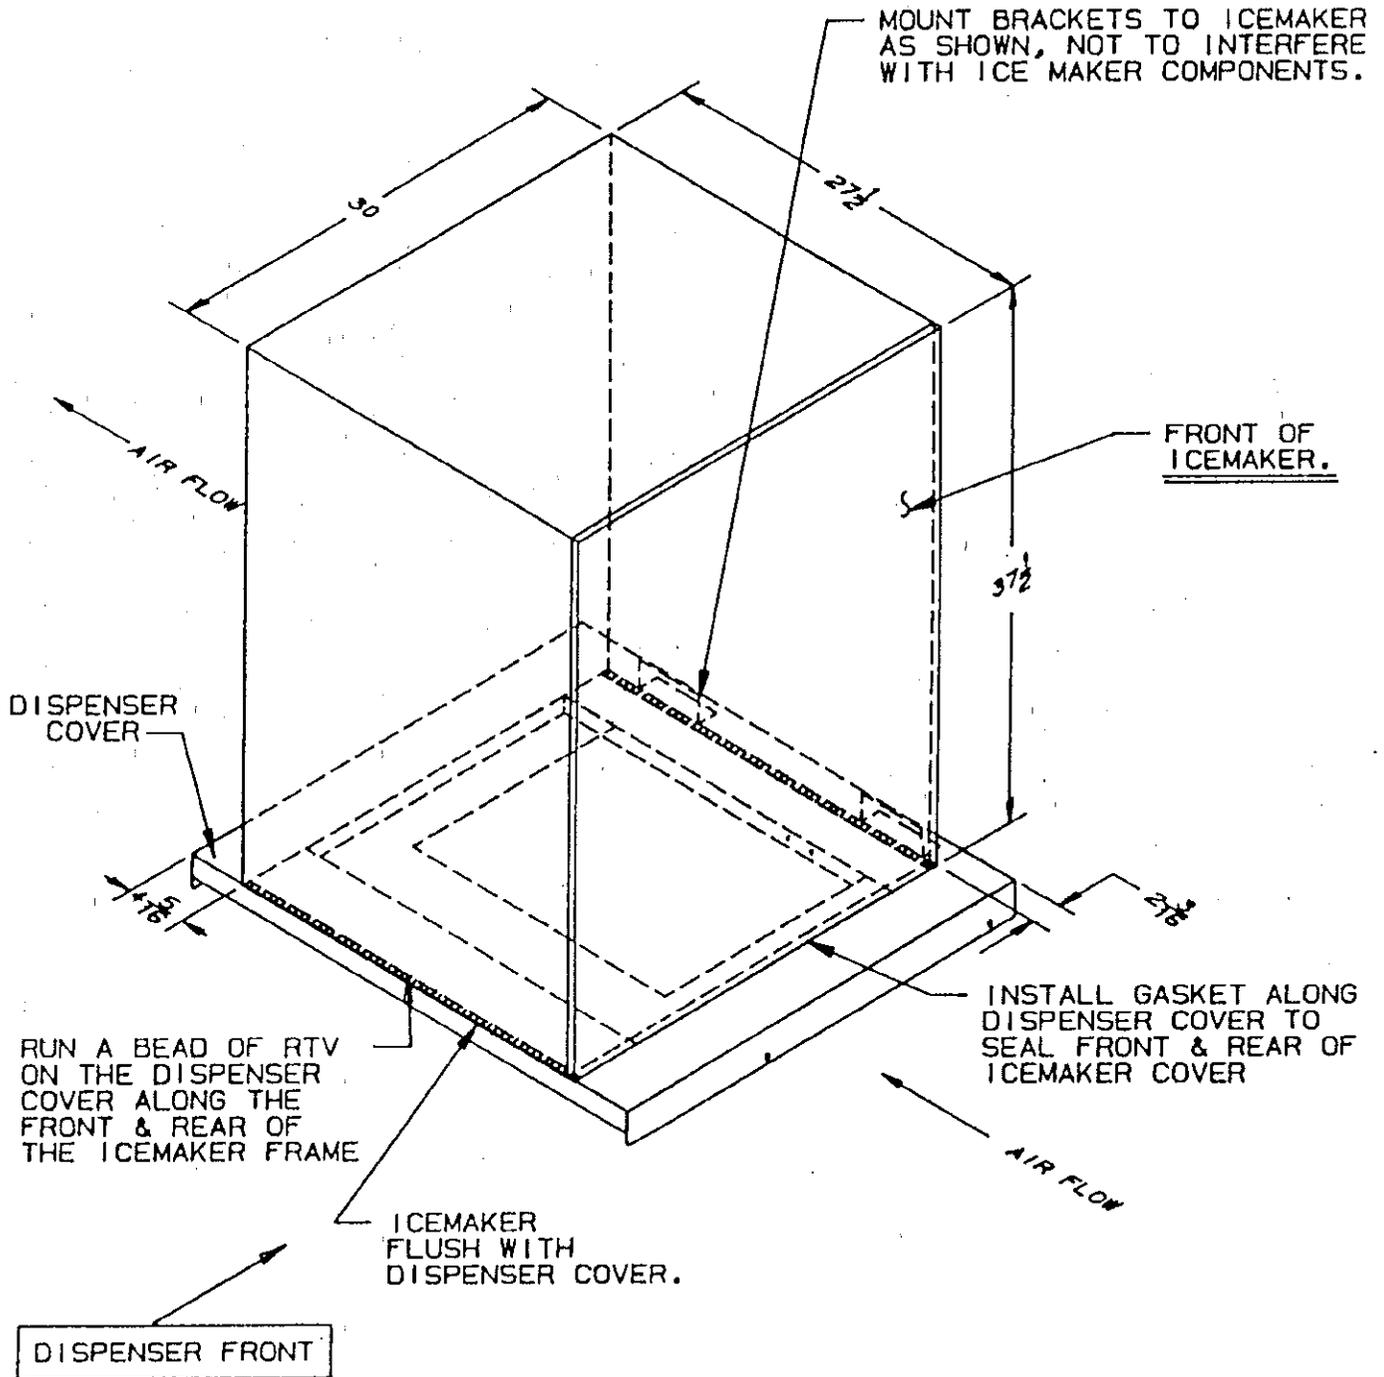

FIGURE 3
HOSHIZAKI: Refer to Figure 3 and the following procedure for installing icemaker.
- A. Run a bead of RTV on the dispenser cover around the outline of the icemaker frame (4 sides) as shown in Figure 3.
- B. Set icemaker onto cover and position as shown in Figure 3.